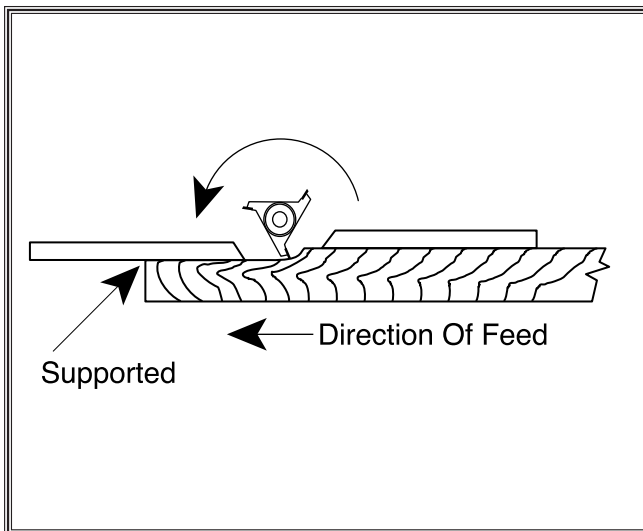

Figure 43. Fence setup for jointing-type operations (Guard Not Shown For Clarity).
7. Once the cutter has come to a complete stop, adjust the outfeed fence so that it just touches the newly cut edge as shown in **Figure 43**.